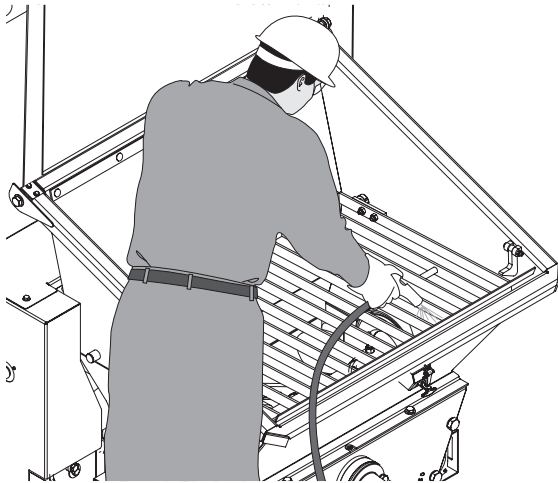

Figure 25
- Spray water into the hopper from above the hopper grate (Figure 25).
- Keep the agitator turning until the blades are sprayed clean (Figure 25). Wash the material from the hopper out of the clean out door on the bottom.